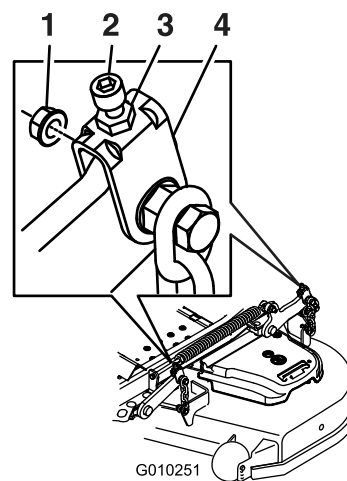

Figure 88
10. If needed, loosen the whizlock nut on the side of the yoke and the jam nut on top. Fine tune the screw adjuster by turning it to get a 7.6 mm (3 inches) height (Figure 88).
16. Fine-tune the screw adjuster by turning it to get 8.3 mm (3-1/4 inches) height (Figure 88).